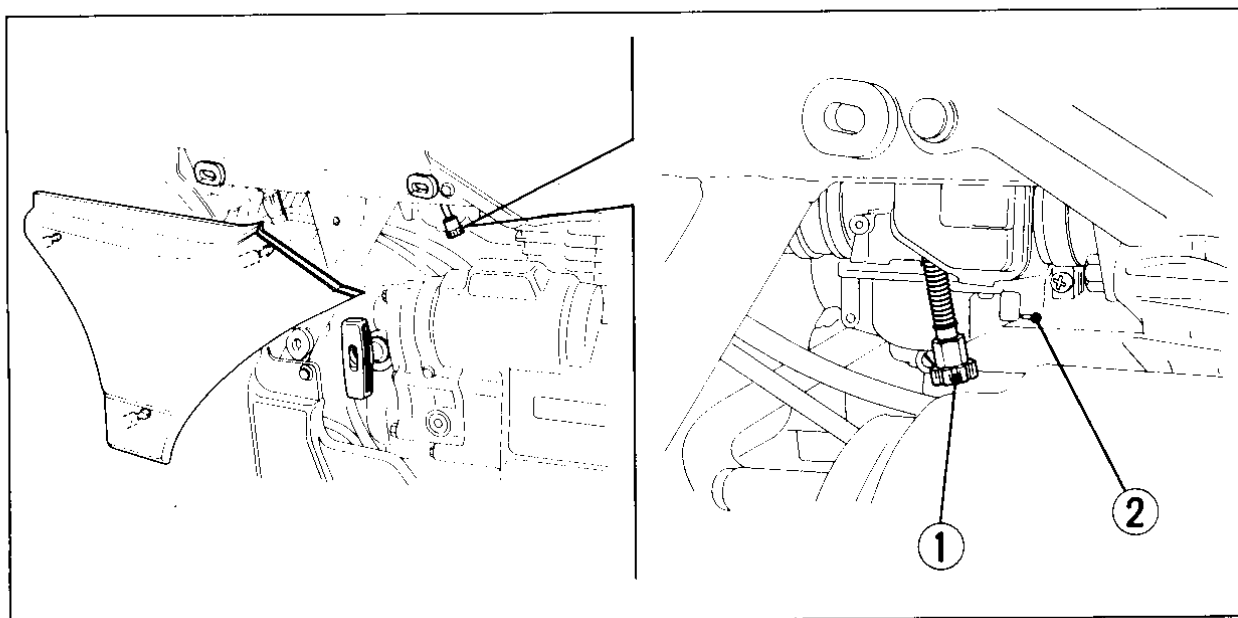

Fig. 4-9
Before adjusting the idle speed and air-fuel mixture, unsnap the right side cover. (Fig4-9)
2. Adjust idle speed by turning the throttle stop screw (Fig. 4-9). Idle Speed:  $1,400 \pm 100$  rpm.